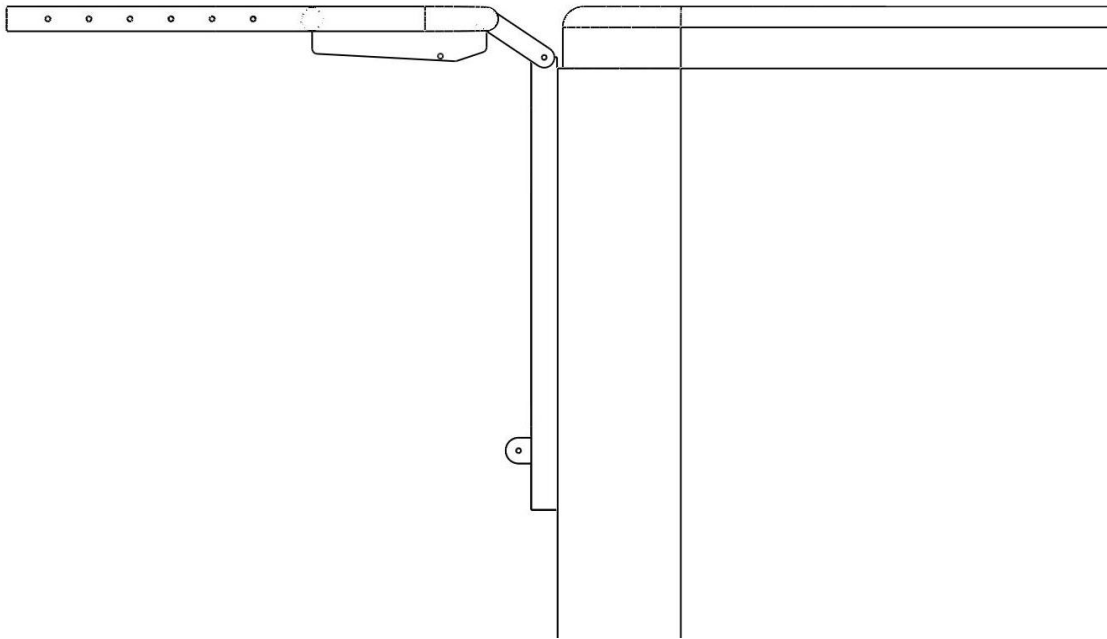

Figure 6
6. Align the Main Unit assembly in the center of the spa. Line up the Pivot Arm as shown in Fig 6. Mark the screw holes.